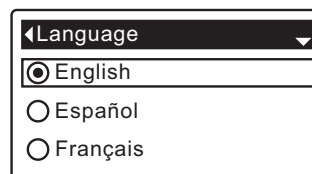

FIG. 49
5. Press the OK/MENU button to display the Language menu (See Figure 49).
6. If the desired language already has a black dot next to it (See Figure 49), go to Step 7. Otherwise, press the DOWN ▼ or UP ▲ buttons to scroll to the desired language, then press OK/MENU to choose it. The choices are: English, Spanish, French, Italian, German, Dutch, Turkish or Greek.